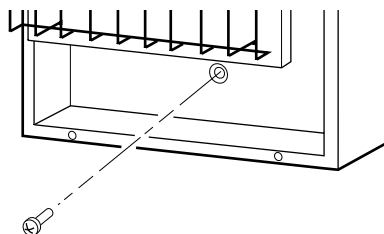

Figure 11 - Installing Bottom Mounting Screw
1. Locate bottom mounting hole. This hole is near bottom on back panel of heater (see Figure 11).
6. Insert bottom anchor screw through back panel into bottom anchor or drilled hole (see Figure 11).